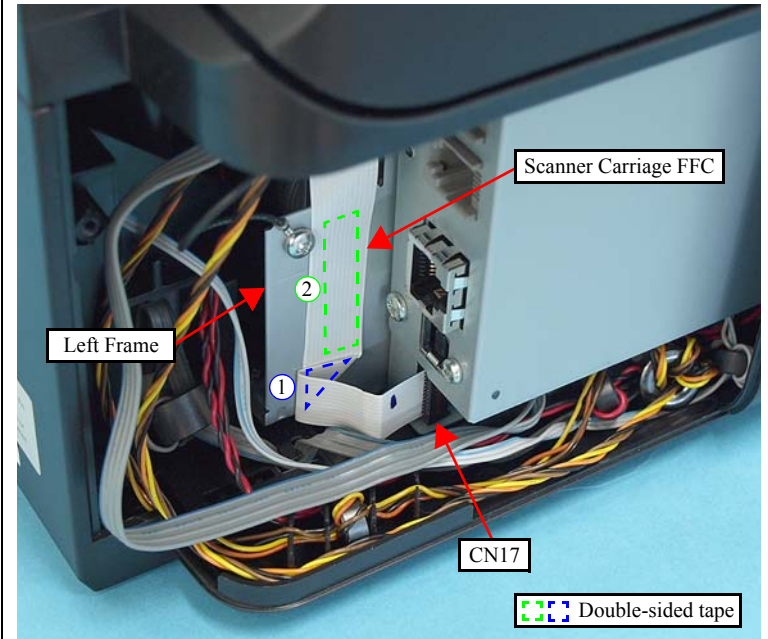

Figure 4-9. Routing the cables and FFC
- When routing the Scanner Carriage FFC, follow the steps below while referring to the Figure 4-9.
1. Fold and secure the FFC with the double-sided tape (1) as shown in the figure, and route it vertically on the Left Frame, then secure it with the double-sided tape (2).